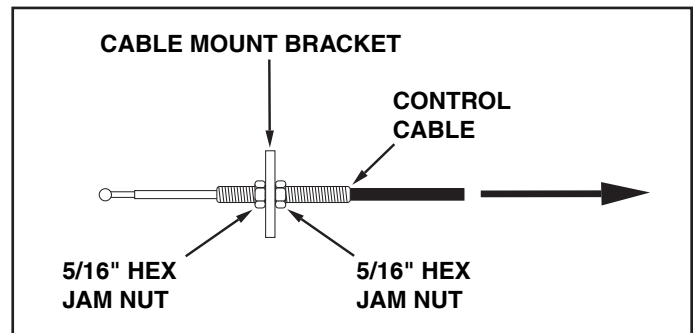

FIGURE 26
- If the blade will not unlock and pivot, the angle lock bars are not disengaging from the slots in the pivot plate. To correct, adjust the 5/16" hex jam nuts to draw the end of the control cable back towards the cable mount bracket. The less the threaded end of the cable extends through the bracket, the more the angle lock bars can retract to disengage from the slots in the pivot plate. See figure 26.